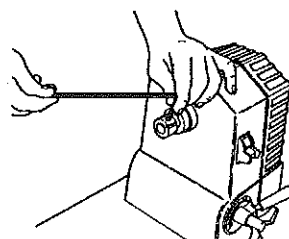

Fig.H-2
4. Remove the drive shaft hub from the drive shaft. See Fig.H-2.